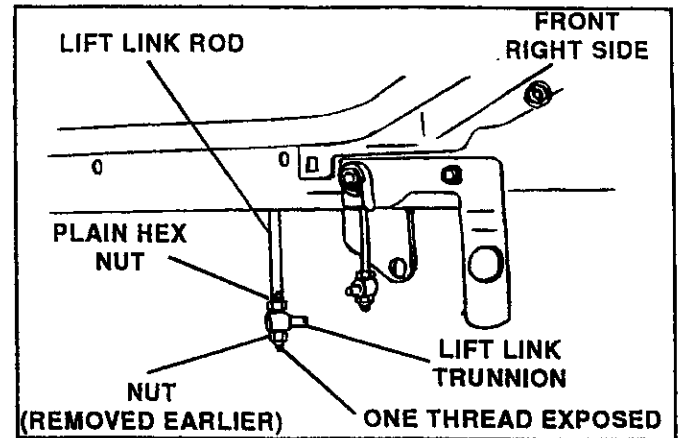
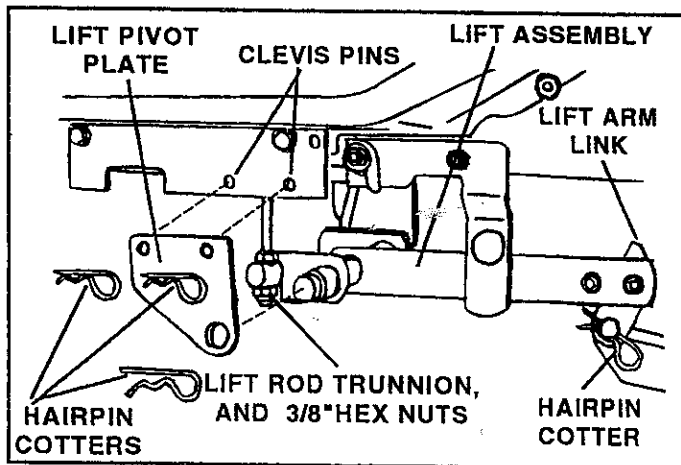

FIGURE 16
FIGURE 32
12. Assemble  $3/8"$  plain hex nut, lift rod trunnion and lock nut (removed from tractor lift link rod in tractor preparation section) onto right and left hand lift link rods until one thread is below bottom of nut. Tighten nuts lock trunnion in place. See figure 16.
2. Refer to figure 32 below and;
- D. Remove lift rod trunnions and hex nuts from each lift link rod. See Figure 32 and figure 16 on page 7.
Frame Brackets do not require removal for re-assembly of mower deck. See figure 32.